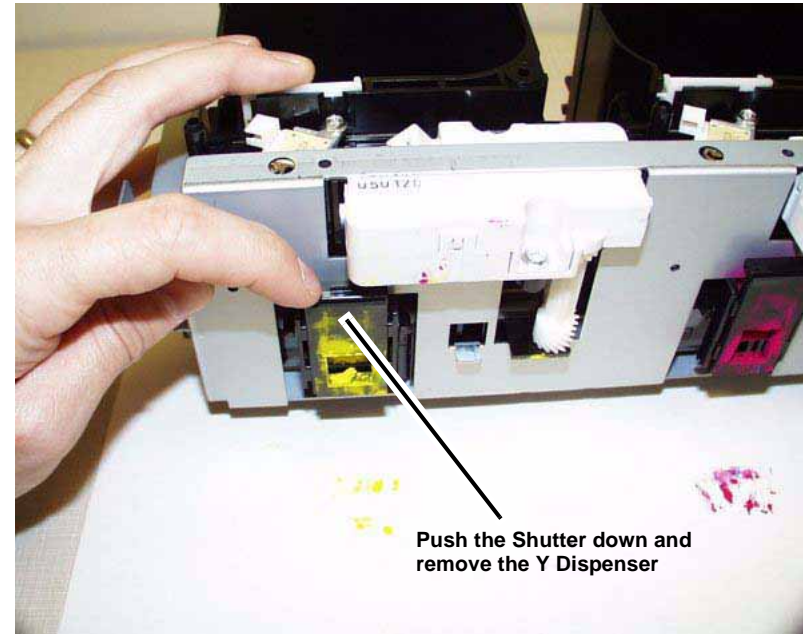

Figure 5 Removing the Y Dispenser
6. Remove the Y Dispenser (Figure 5).